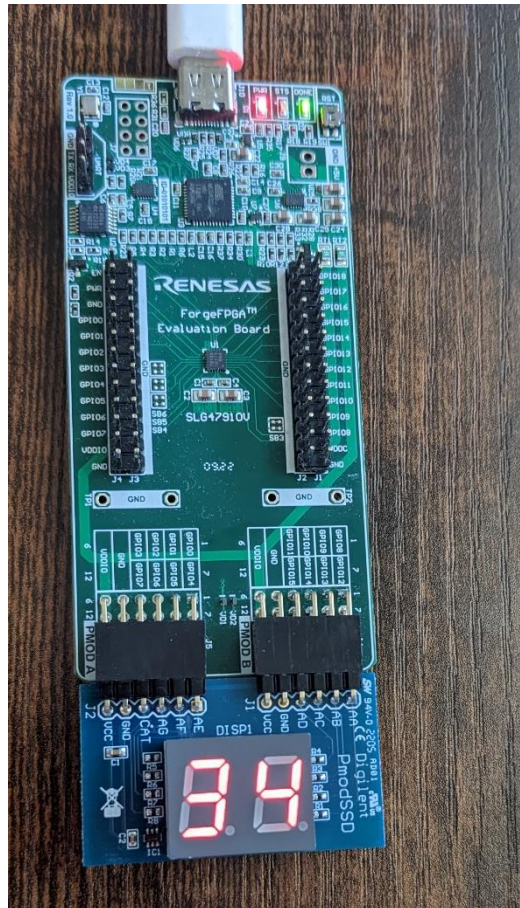

Figure 7: PmodSSD Countdown
- Once the user clicks the emulation button on the software, the bitstream gets loaded on the SLG47910 part. You can now observe the countdown being reflected in the 2-digits of the PmodSSD 7-segment display (see Figure 7).